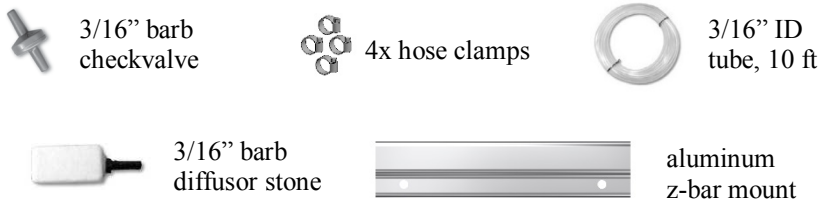

Fig 1: Feature Callout and Accessory List
- Using a level to make sure it is horizontal, attach the z-bar to a wall using appropriate tools and mounting hardware for the material of the wall (see Figure 1 for z-bar orientation).